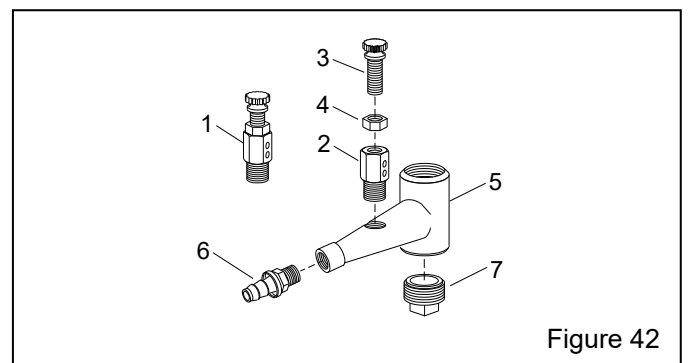

Figure 42
9.8 Metering Valve Assembly, BNP – Figure 42